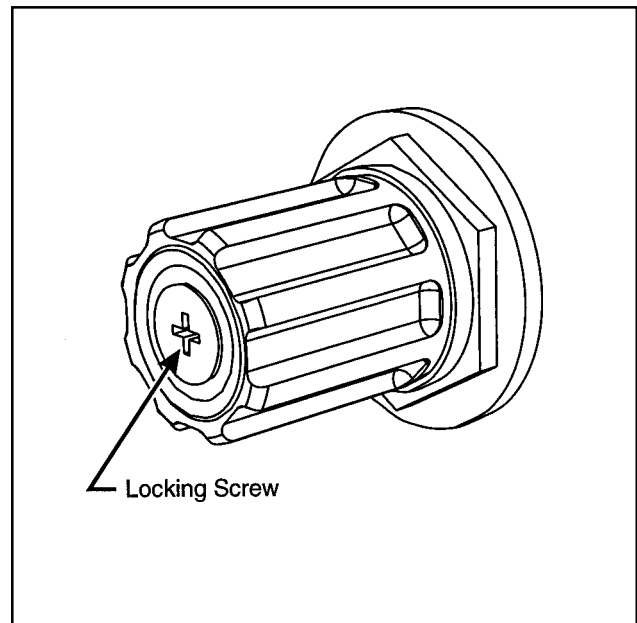

Figure 3-4 – Air Regulator, Drive Belts
- ⑦ **Air Pressure Regulator, Box Drive Belt Centering – Figure 3-4.**